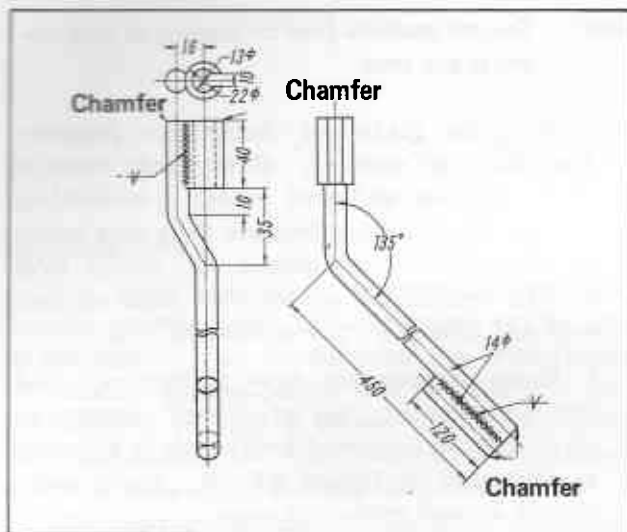

Fig. BF-19 Torsion bar removal lever
2. Remove tail gate torsion springs by using a lever as shown in Figure BF-19 and 20.